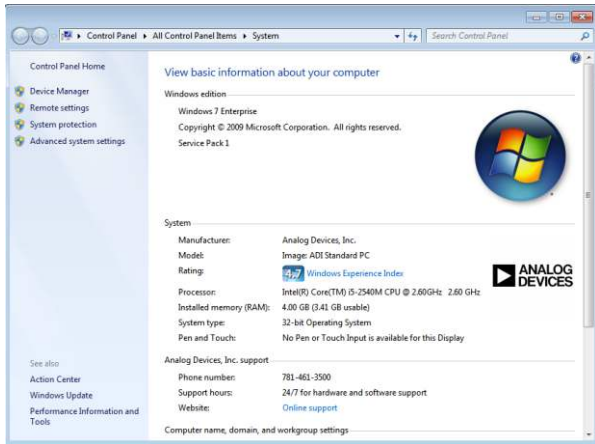

Figure 12. Windows 7 System Properties
2. In the upper left corner of the window that opens, select **Device Manger**, shown in Figure 12. Windows 7 may request that you allow access to this panel.